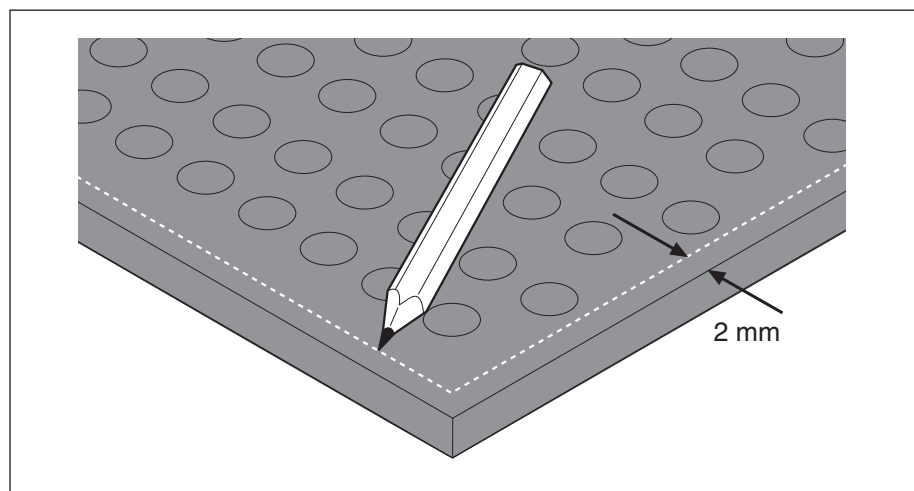

Fig. 5-6: Mark the edge of the Safety Mat
1. Mark the Safety Mats, for example with a ballpoint pen, at intervals of 2 mm from the outer edges of the Safety Mat system (see Fig. 5-6, pg. 11).